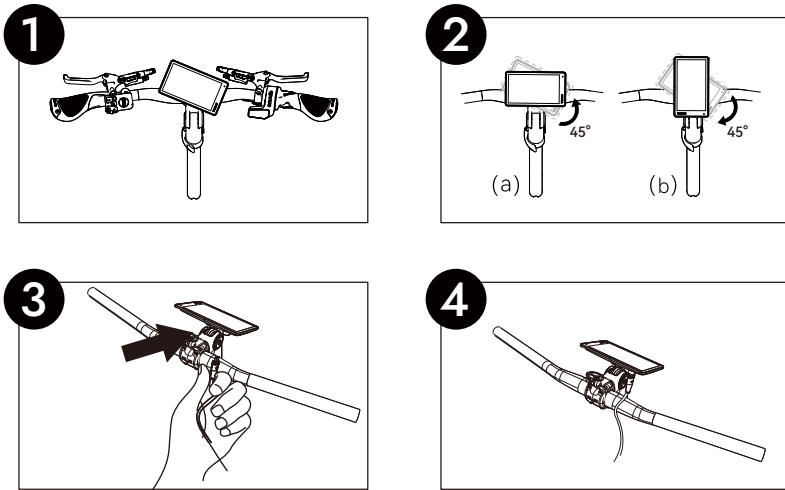

Figure 6
- Connect the type-C cable from the bike to the type-C port on the central display. (See *Figure 6*).